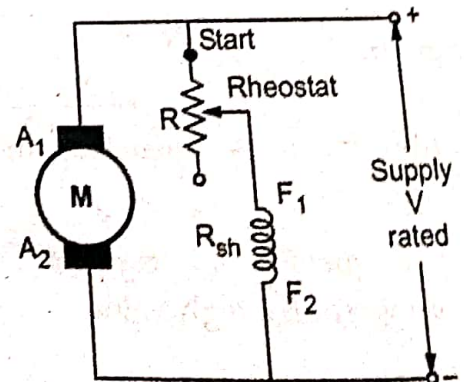

Fig. Q.51.3 Flux control of shunt motor
- The flux is dependent on the current through the shunt field winding. Thus flux can be controlled by adding a rheostat (variable resistance) in series with the shunt field winding, as shown in the Fig. Q.51.3.
- At the beginning the rheostat R is kept at minimum indicated as start in the Fig. Q.51.3.